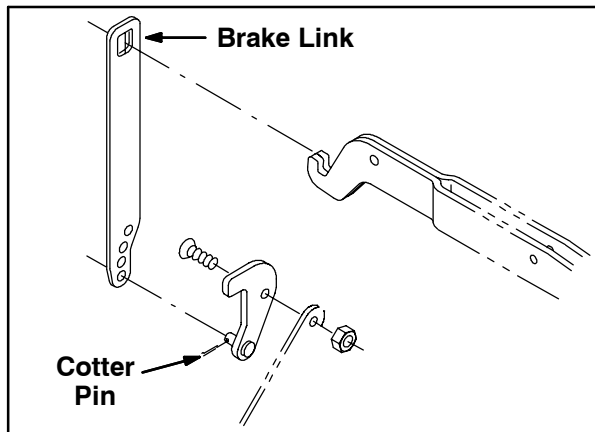
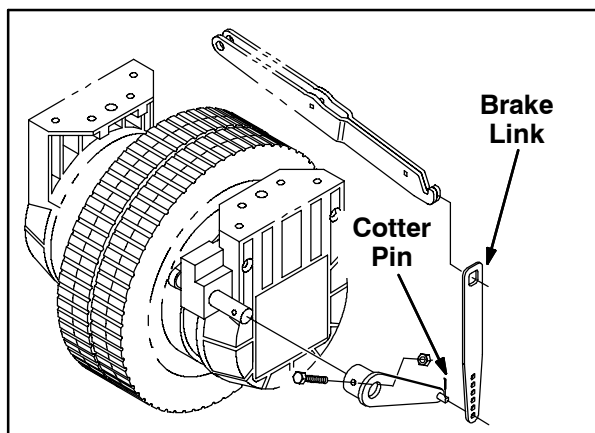

FIG. 3-Older Machines
FIG. 4-Newer Machines
4. Remove the cotter pin securing the brake link to the brake arm and remove the brake link from the side of the drive assembly. Set aside all loose parts. Refer to Fig. 3 or Fig. 4.
5. Remove the power wire cover from the side of the drive assembly. Refer to Fig. 4.